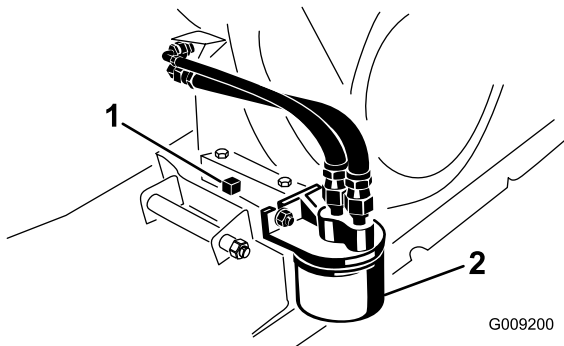

Figure 41
5. Align a drain pan with a 1.8 L (1.9 qt) capacity under the drain plug (Figure 41).
6. Remove the drain plug and seal (Figure 41).
2. Remove the existing oil filter (Figure 41).
4. Thread the new filter onto the filter adapter until the gasket contacts the mounting plate, then tighten the filter an additional 1/2 to 3/4 turn further (Figure 41).